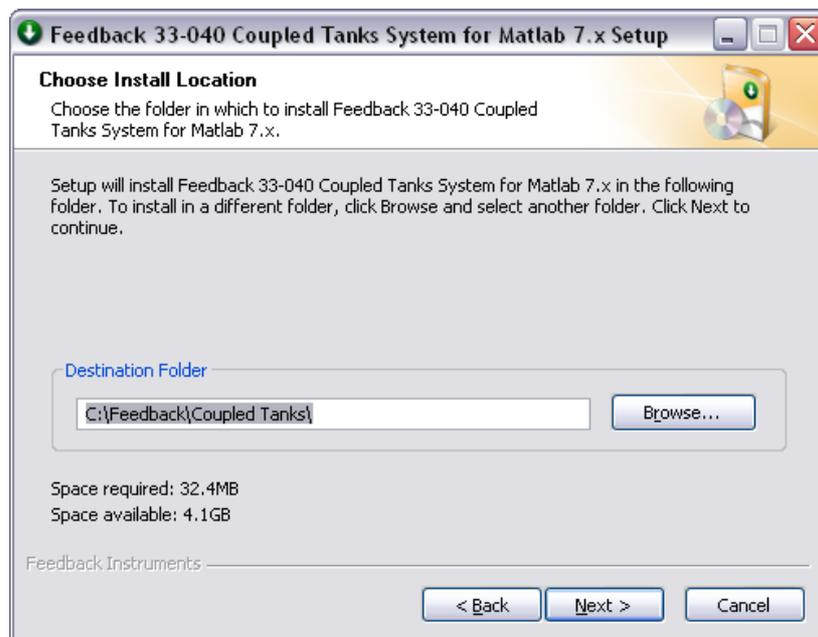

Figure 20 Destination Folder window
3. Select the Matlab version and click 'Next'. The Installation Destination Folder choice window will appear (Figure 20).